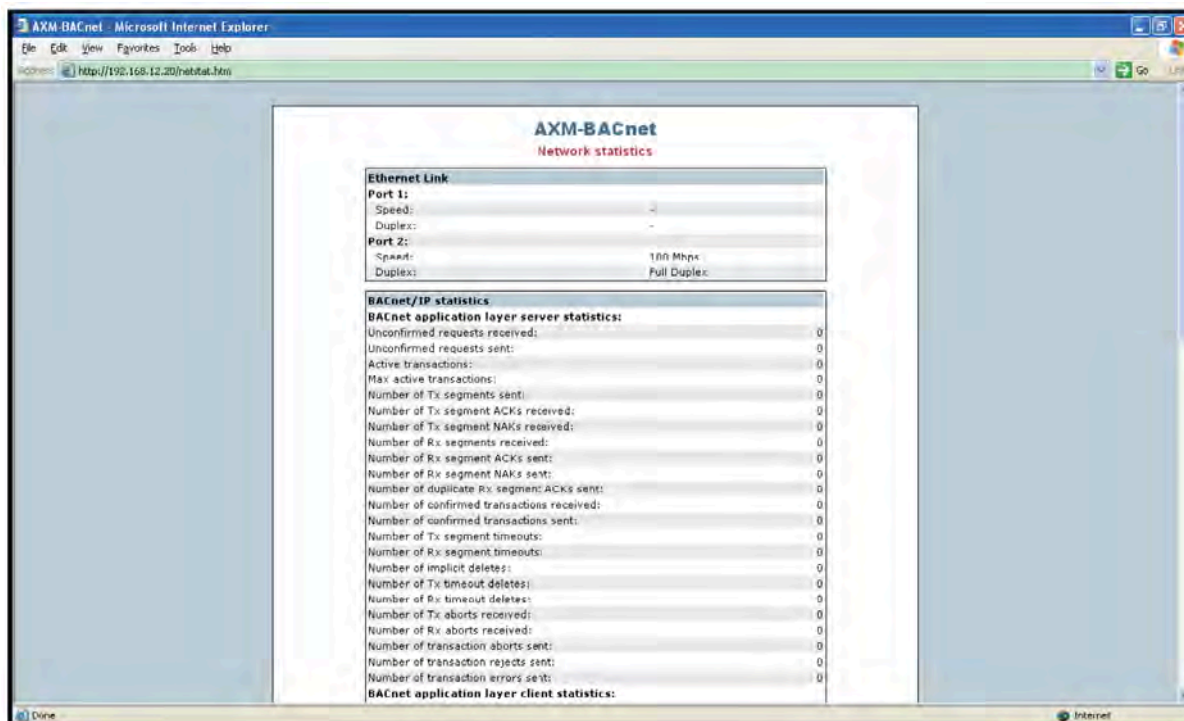

Fig 5-89
c). Set module address in the first setting page. Press the "V/A" key to go to the setting page. Users may set the parameters pointed out in Fig 5-89. The cursor starts at the first digit. The BACnet MS/TP Address's default value is 0, and the user defined range of address is 0~127.